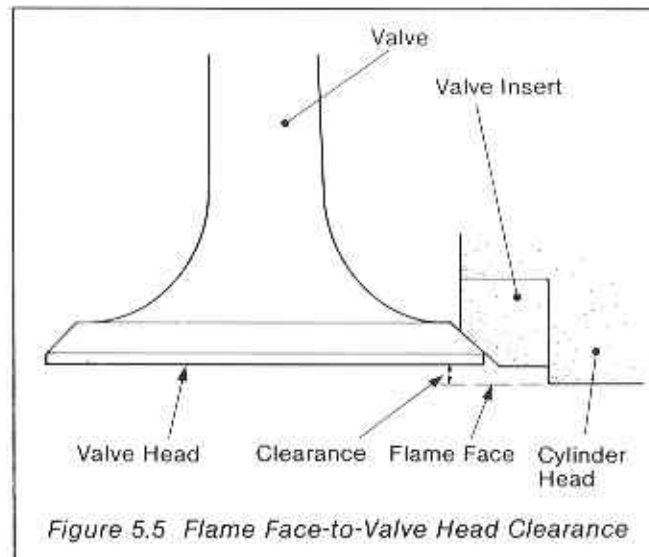

Figure 5.5 Flame Face-to-Valve Head Clearance
5.7 If the valve seats are badly pocketed and cutting the valve seats back will exceed the flame face-to-valve head clearance 0.68 mm to 1.09 mm (0.027 in. to 0.043 in.) as shown in Figure 5.5 valve inserts must be fitted. Suitable valve seat inserts can be supplied and are fitted as follows: